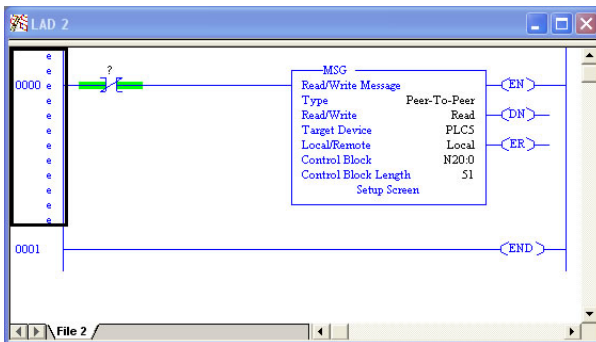

Figure 121: PLC Program after MSG Instruction Configuration
- f) Close the dialog box. At this point, the program should appear as shown in Figure 121.